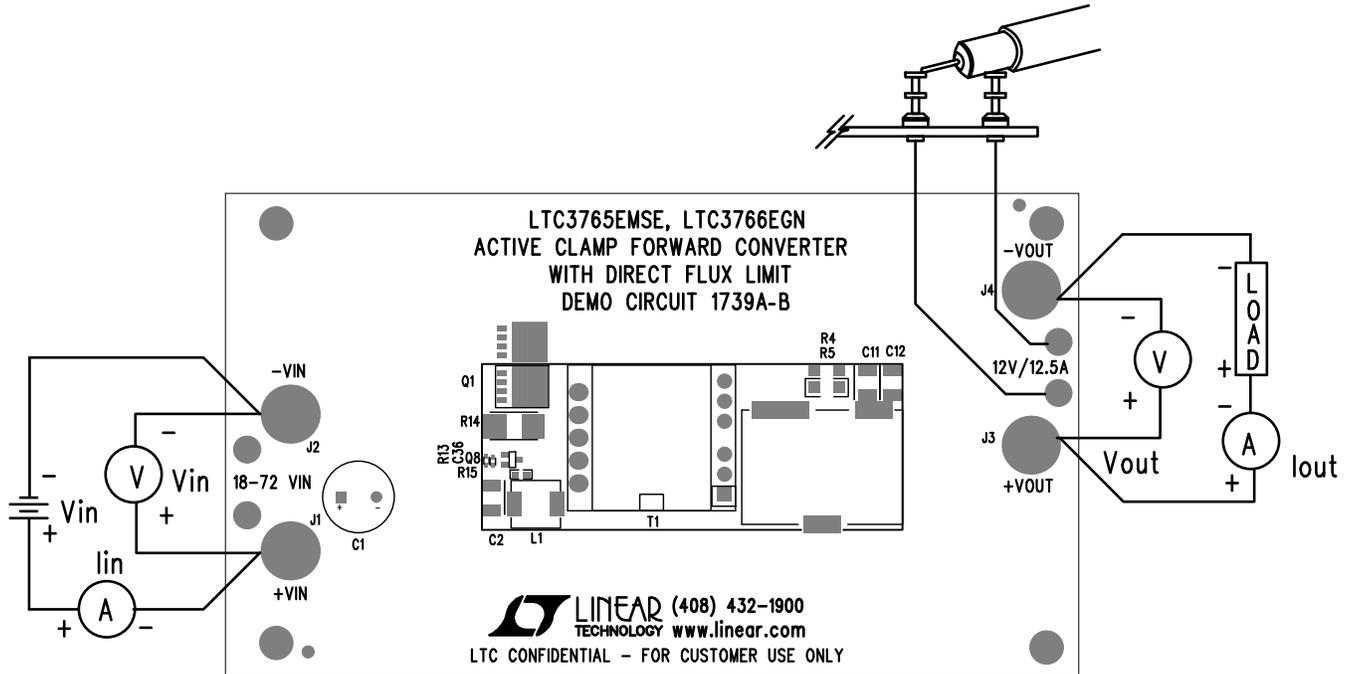

Figure 1. Proper Measurement Equipment Setup
Demonstration circuit 1739 is easy to set up to evaluate the performance of the LTC3765/LTC3766. Refer to Figure 1 for proper measurement equipment setup and follow the procedure below:
**NOTE.** When measuring the output voltage ripple, care must be taken to avoid a long ground lead on the oscilloscope probe. Measure the output voltage ripple by touching the probe tip and ground ring directly across the last output capacitor as shown in Figure 1.